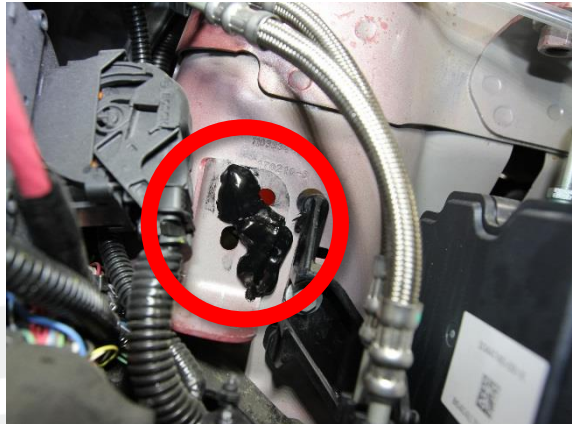

Figure 10
19. Use a caulking gun to apply urethane sealant and cover the heads of each rivet to seal the rivets to the bracket support (Figure 10).